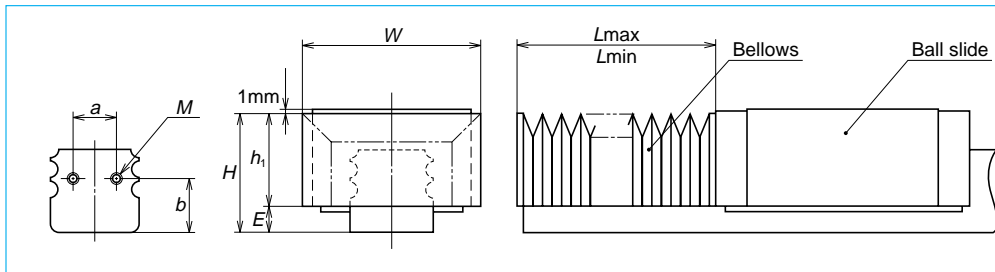
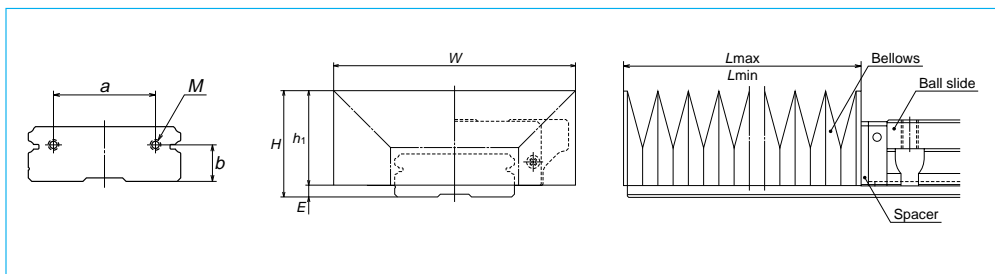

Fig. II-5-12
Fig. II-5-13
③ LA and LW Series
* Installation to the ball slide (Fig. II-5-12 and Fig. II-5-13)